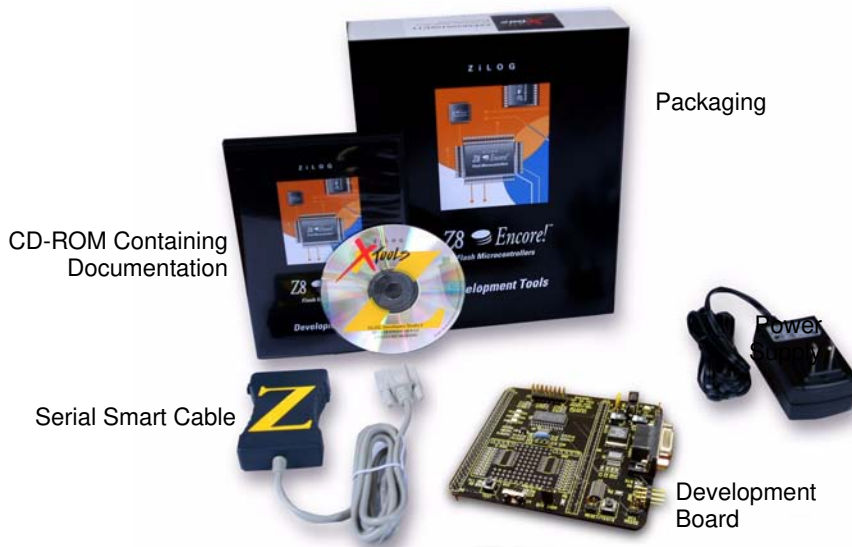

Figure 1. Z8 Encore! XP® F08xA Series Development Kit Contents
- Figure 1. Z8 Encore! XP® F08xA Series Development Kit Contents .2